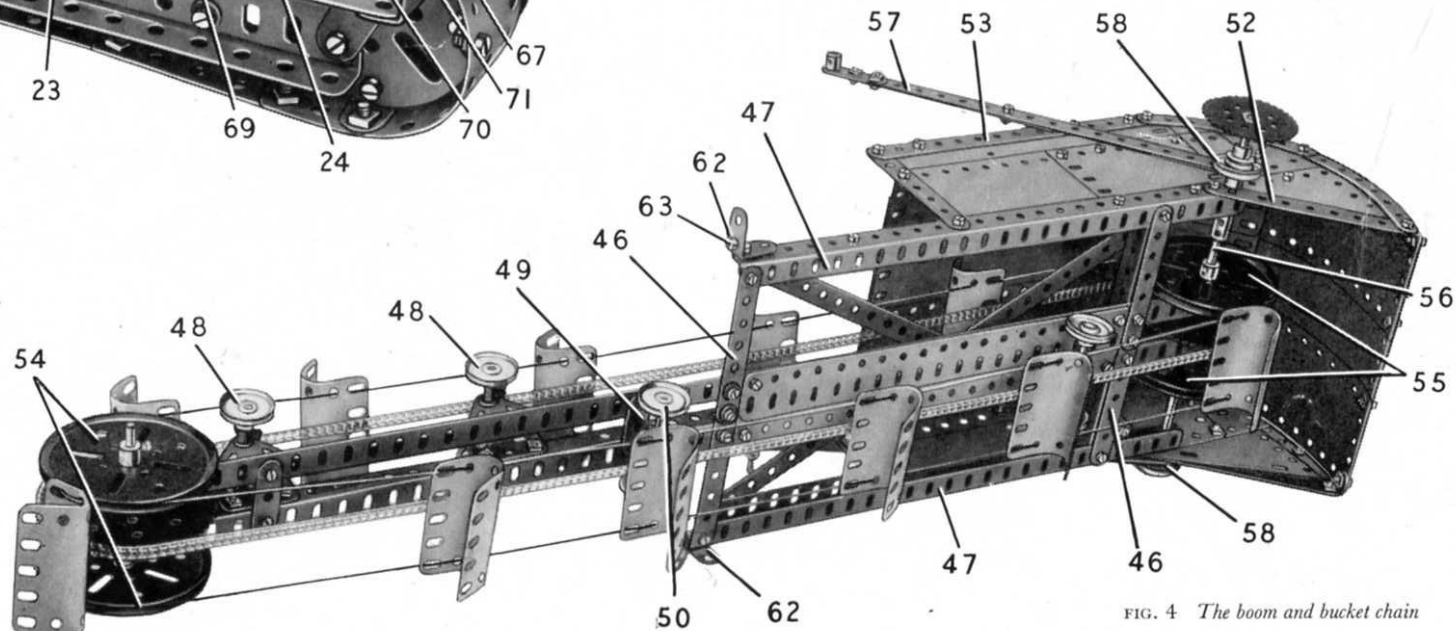

FIG. 4 The boom and bucket chain
The boom that supports the bucket chain consists of two $24\frac{1}{2}$ " Angle Girders connected by a $1\frac{1}{2}$ " Strip, two $9\frac{1}{2}$ " Flat Girders and two built-up strips (46) (Fig. 4), each made from two $3\frac{1}{2}$ " Strips. The upper one of the strips (46) is strengthened by a 3" Angle Girder on each side. A $12\frac{1}{2}$ " Angle Girder (47) on each side is bolted to the ends of the strips (46), and this structure is braced by two crossed $12\frac{1}{2}$ " Strips. The lower ends of the $12\frac{1}{2}$ " Strips are bolted to $4\frac{1}{2}$ " Angle Girders fixed to the Girders (47), and the upper ends are attached to Angle Brackets also bolted to the Girders (47).